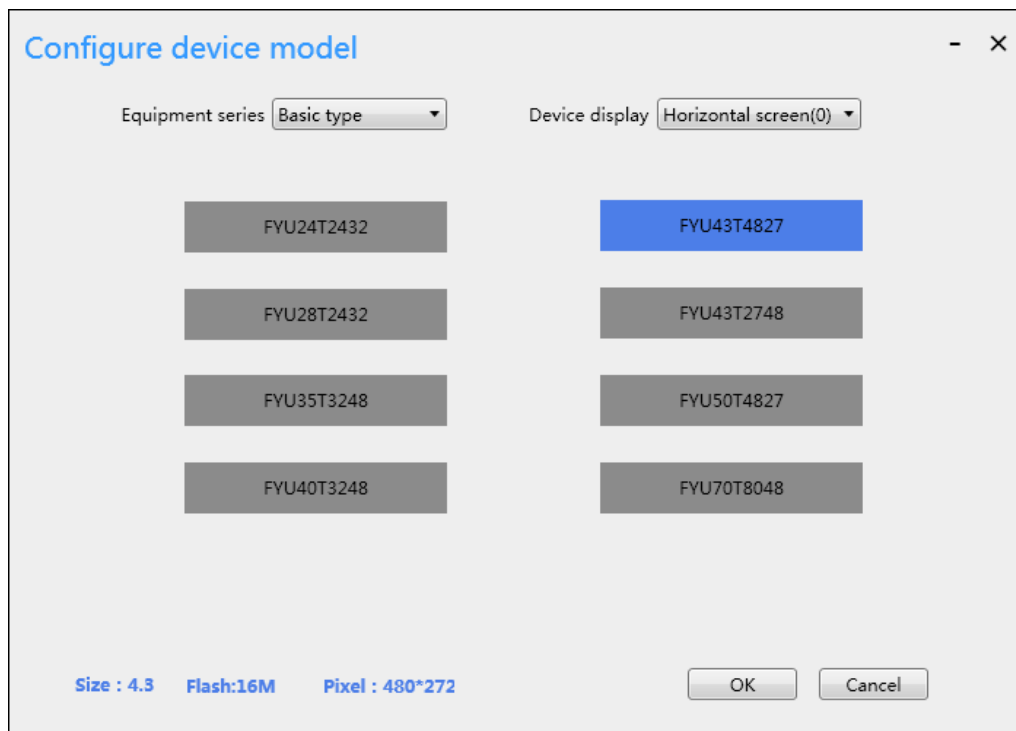

Figure 1-5
2) Step 2: Set the model for the LCD. The model should be the same as the LCD model used. Here, the device series selects “Basic”, the device display is set to landscape, and the model selection is “FYU43T4827”, as shown in Figure 1-5. As shown; click the "confirm" button after the selection is complete. Enter the main interface (**Note: You can select "Tools" -> "Project Configuration" in the toolbar to open the configuration device model interface, modify the device model selected by the project**)